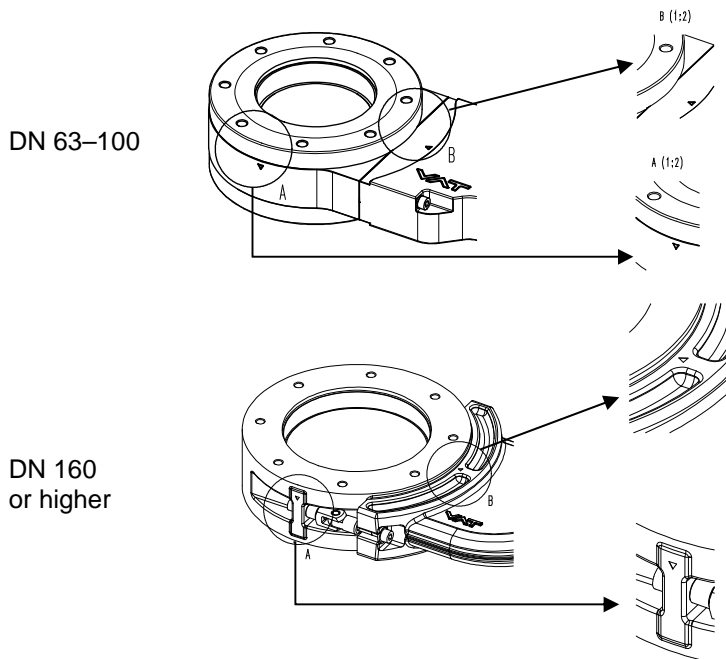
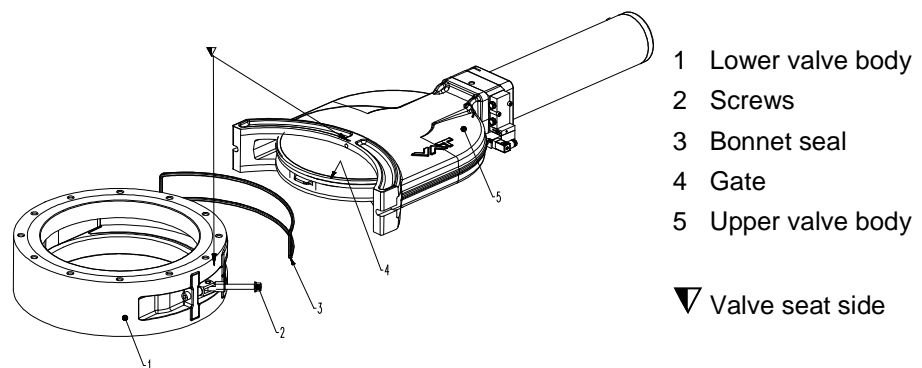

Figure 6-3
Figure 6-4
The numbers in brackets () refer to «Figure 6-4» on page 19.
Make sure to have gate (2); see «Figure 6-2»; on seat side «∇»; see «Figure 6-4» on page 19.
The tips of the triangles «∇» of both body parts must face each other; see «Figure 6-3 » on page 19 and «Figure 6-4» on page 19.
19. For DN 160 or higher: Swing back both screws (2); see «Figure 6-4».
20. Tighten the screws (2) with the appropriate torque specified in chapter «6.2 Tightening torque specifications».